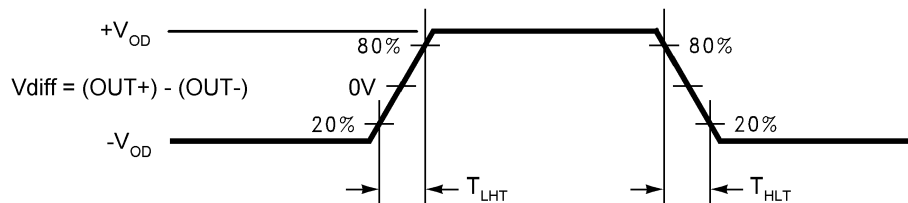

Figure 5. LVDS Output Transition Time
| $T_{LHT}$  | Output Low-to-High Transition Time, 20% to 80%, <a href="#">Figure 5</a> (1) |  |     | 390  | 550  | ps    |
| $T_{HLT}$  | Output High-to-Low Transition Time, 80% to 20%, <a href="#">Figure 5</a> (1) |  |     | 390  | 550  | ps    |